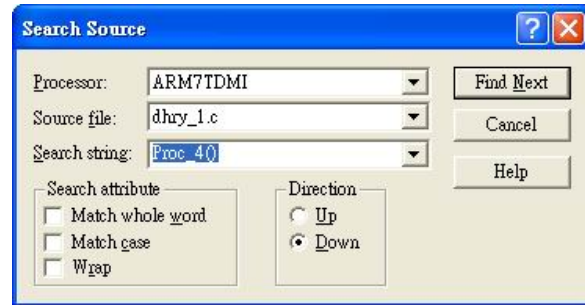

Figure 2. Search in Source.
3.1 Alternatively, you may use **Search in Source** by Search string set as “**Proc_4()**”, as shown in Figure 2.